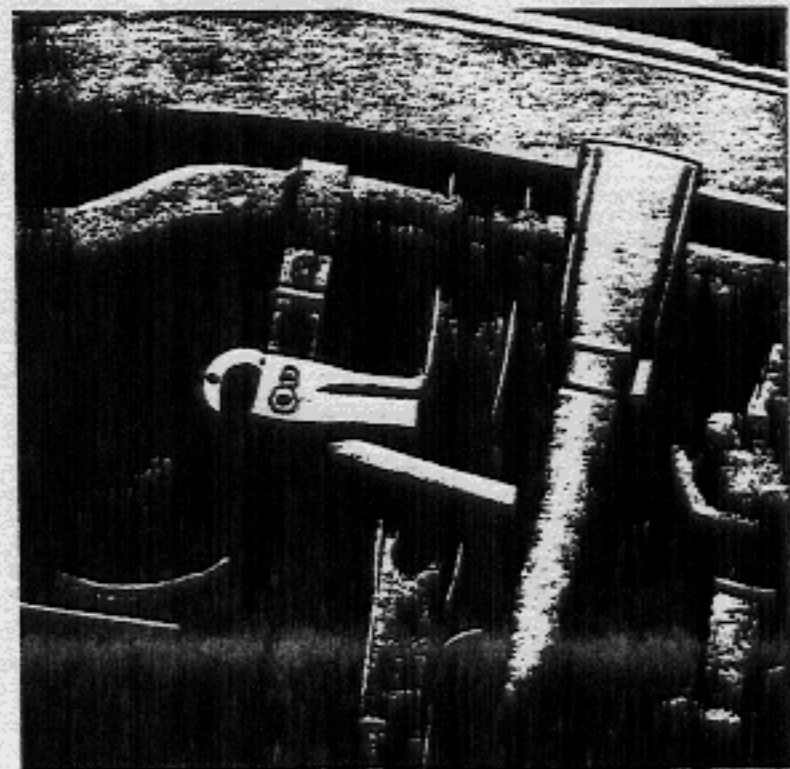

Fig. 10
- 11 - Secure intake and exhaust pipes. Slide exhaust elbow on to the exhaust pipe and secure with clamp screw. Drill a 6.5 mm hole in the left rear bumper bracket level with the exhaust pipe elbow support and secure support with a hexagon head M 6x15 screw, nut and spring washer (Fig. 10).